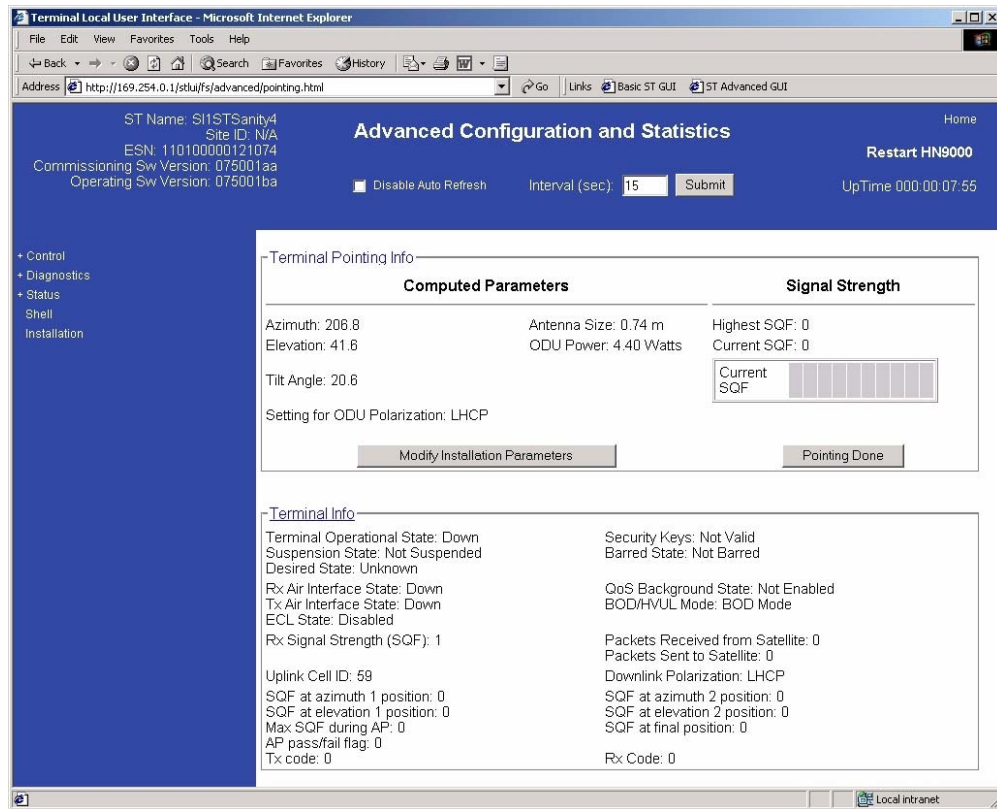

Figure 6: Terminal Pointing Info screen
8. Click **Submit Installation Parameters**. The IDU saves the information and enters Pointing mode. The Terminal Pointing Info screen appears on the installer laptop as shown in Figure 6.